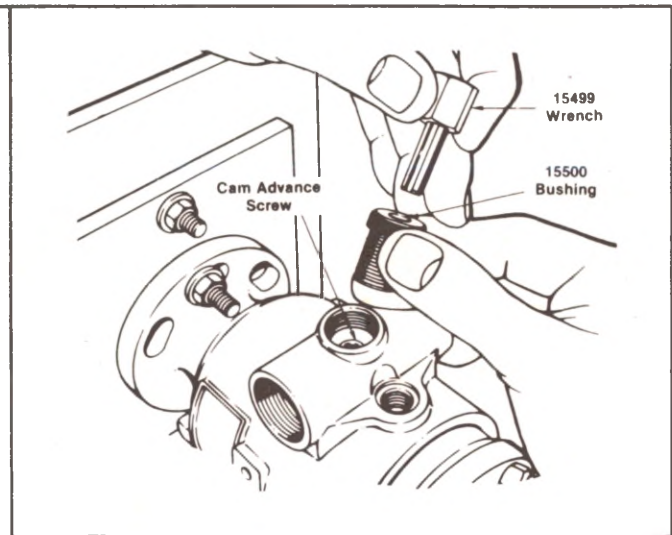
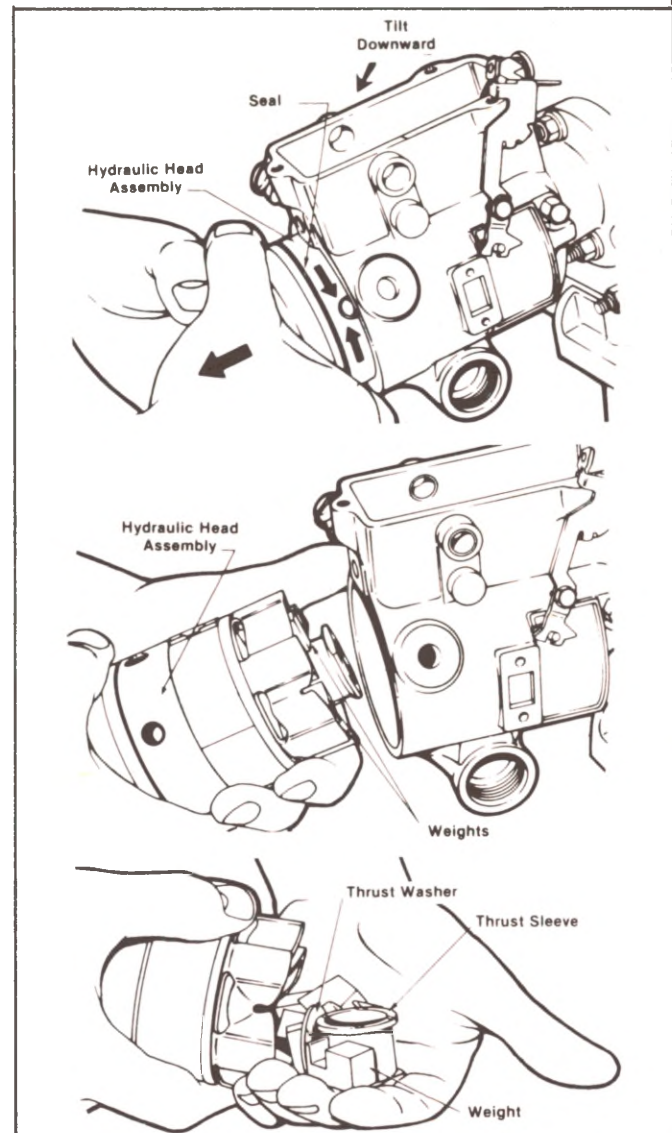

Fig. 3-17 Cam Advance Screw and Tools.
Fig. 3-18 Head, Rotor and Governor Weights.
(C.) Install 15500 Bushing and Bristol tool and remove the cam advance screw. Be sure to fully seat tool into ball end to reduce the possibility of breakage. Figure 3-17. Some Bristol tools were manufactured with a 30° chamfer on the end of the tool. The life of the tool can be extended by grinding a 60° chamfer on the tool. All tools now have a 60° chamfer.
21. Remove the head and rotor assembly, governor weights, thrust sleeve, and thrust washer. Figure 3-18. Take care that head and rotor assembly doesn't roll off workbench onto floor.
6. Install the entire head and rotor assembly, making certain that the drive shaft is engaged properly (with "T" mark on drive shaft up, align dots on drive shaft tang and rotor slot). Reverse the action shown in Figure 3-18. Retain assembly with two (2) head locking screws (hand tight). **NOTICE:** Insertion of the head too far into the pump may cut the housing seal at the vent screw area. If the head goes in further than the locating screw holes, check the housing to see if seal is exposed, if it is, remove and replace the seal.
7. Turn pump upside down and install head locating screw using new head locating screw seals. Torque 15-18 ft. lbs. Then torque the two (2) head locking screws to 15-18 ft. lbs.
8. On all models without external advance, install the cam advance screw using the Bristol tool. Torque to 37-38 ft. lbs. Figure 3-17. Use grease to hold advance piston side washers in place and install the advance screw components, piston hole plug (power side) and piston hole plug (trimmer side), using new seals and lubricate. Torque plugs to 18-22 ft. lbs.